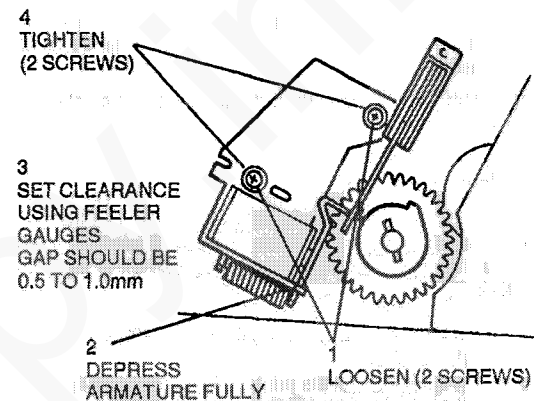

Figure 4. Adjusting armature clearance
- (Figure 4) Adjust the clearance between the clutch spring claw and the cassette feed solenoid armature.